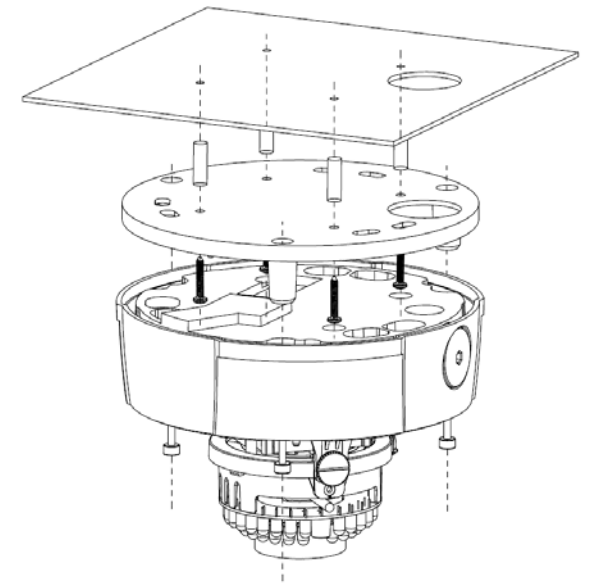

Figure 2.3.5
Step 3: Use the inner hexagonal wrench (provided) to loosen the three inner hexagon screws in the dome and then remove the device pedestal. Figure 2.3.5